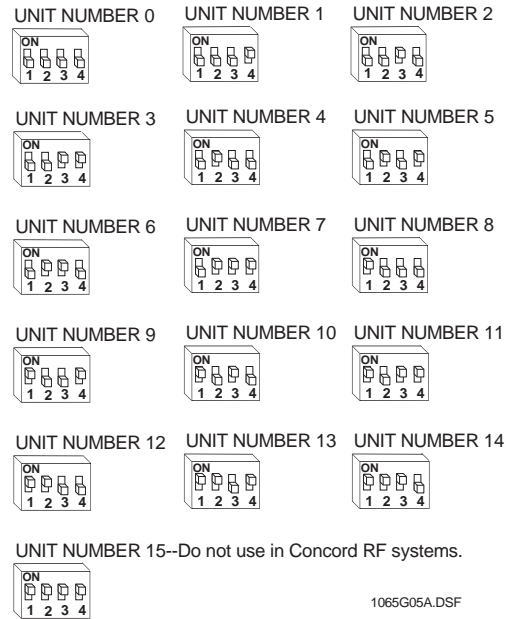

Figure 8. Unit Number DIP Switch Settings
Locate the DIP switches on the module and set them to the desired unit number (0–15) *before* applying power (see Figure 8).
2. Change the DIP switch setting on the module (see Figure 8). Remember, the setting must be different from all other bus devices.